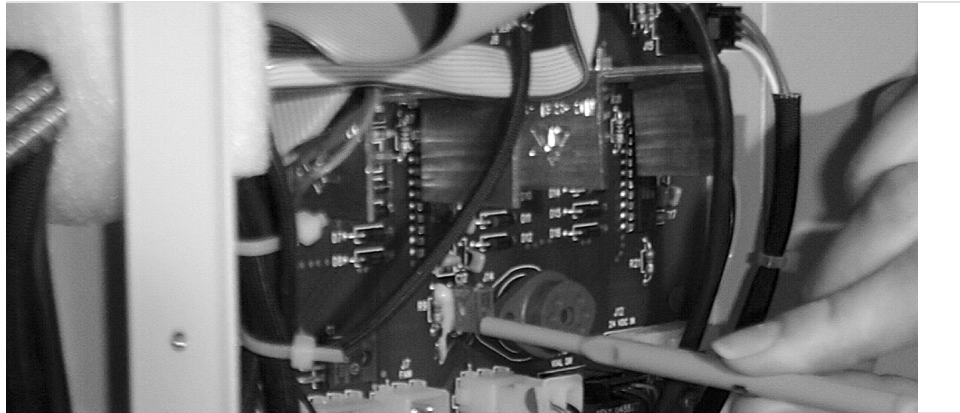

Figure 5-7. Adjusting the R1 Potentiometer
- Using a small flathead screwdriver or a trimmer adjuster (P/N 035617), begin adjusting the R1 pot (see Figure 5-7). Turning the pot clockwise decreases the value; turning it counterclockwise increases the value. When the **ACTUAL SENSOR READING** is set to 4000, press **Enter** to calibrate the **UPPER VAPOR THRESHOLD**.